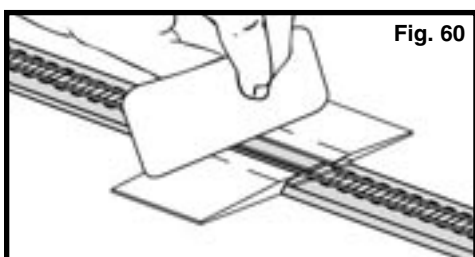

Fig. 60
- E. Starting with the six rail crossings, fill areas between the Paving Tape with Smooth-It (Fig. 60). Use provided spreader to level Smooth-It even with the tops of the rails and the tops of Hydrocal Inclines (Fig. 60). With your fingernail, remove excess Smooth-It from top of the rails.